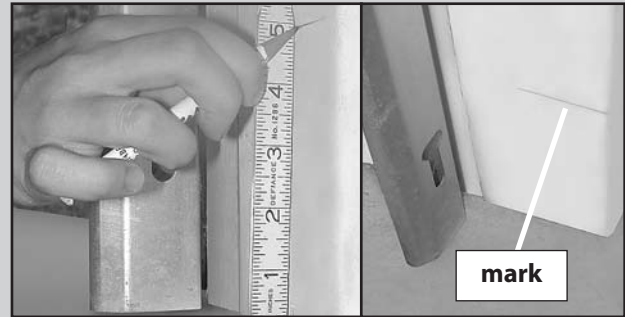

FIG. 3-1 Mark door frame.
- Mark both sides of garage door frame or wall 5" above floor (Fig. 3-1).